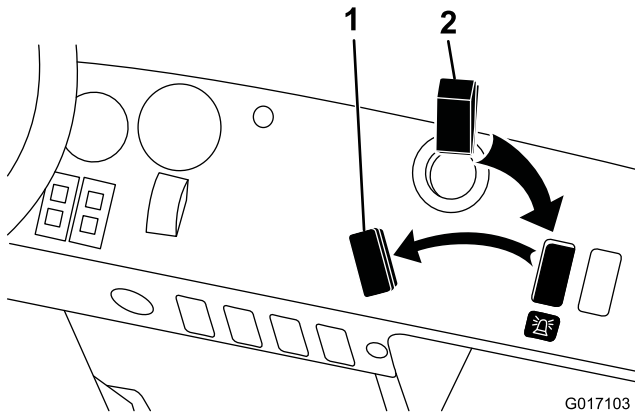

Figure 1
1. Remove the plug from the switch mounting hole in the dash (Figure 1).
3. Insert the beacon switch into the hole in the dash (Figure 1).